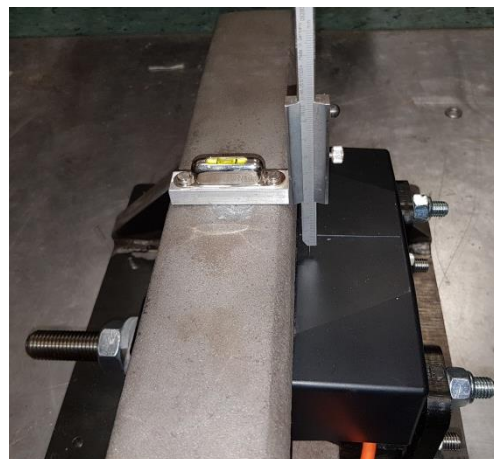
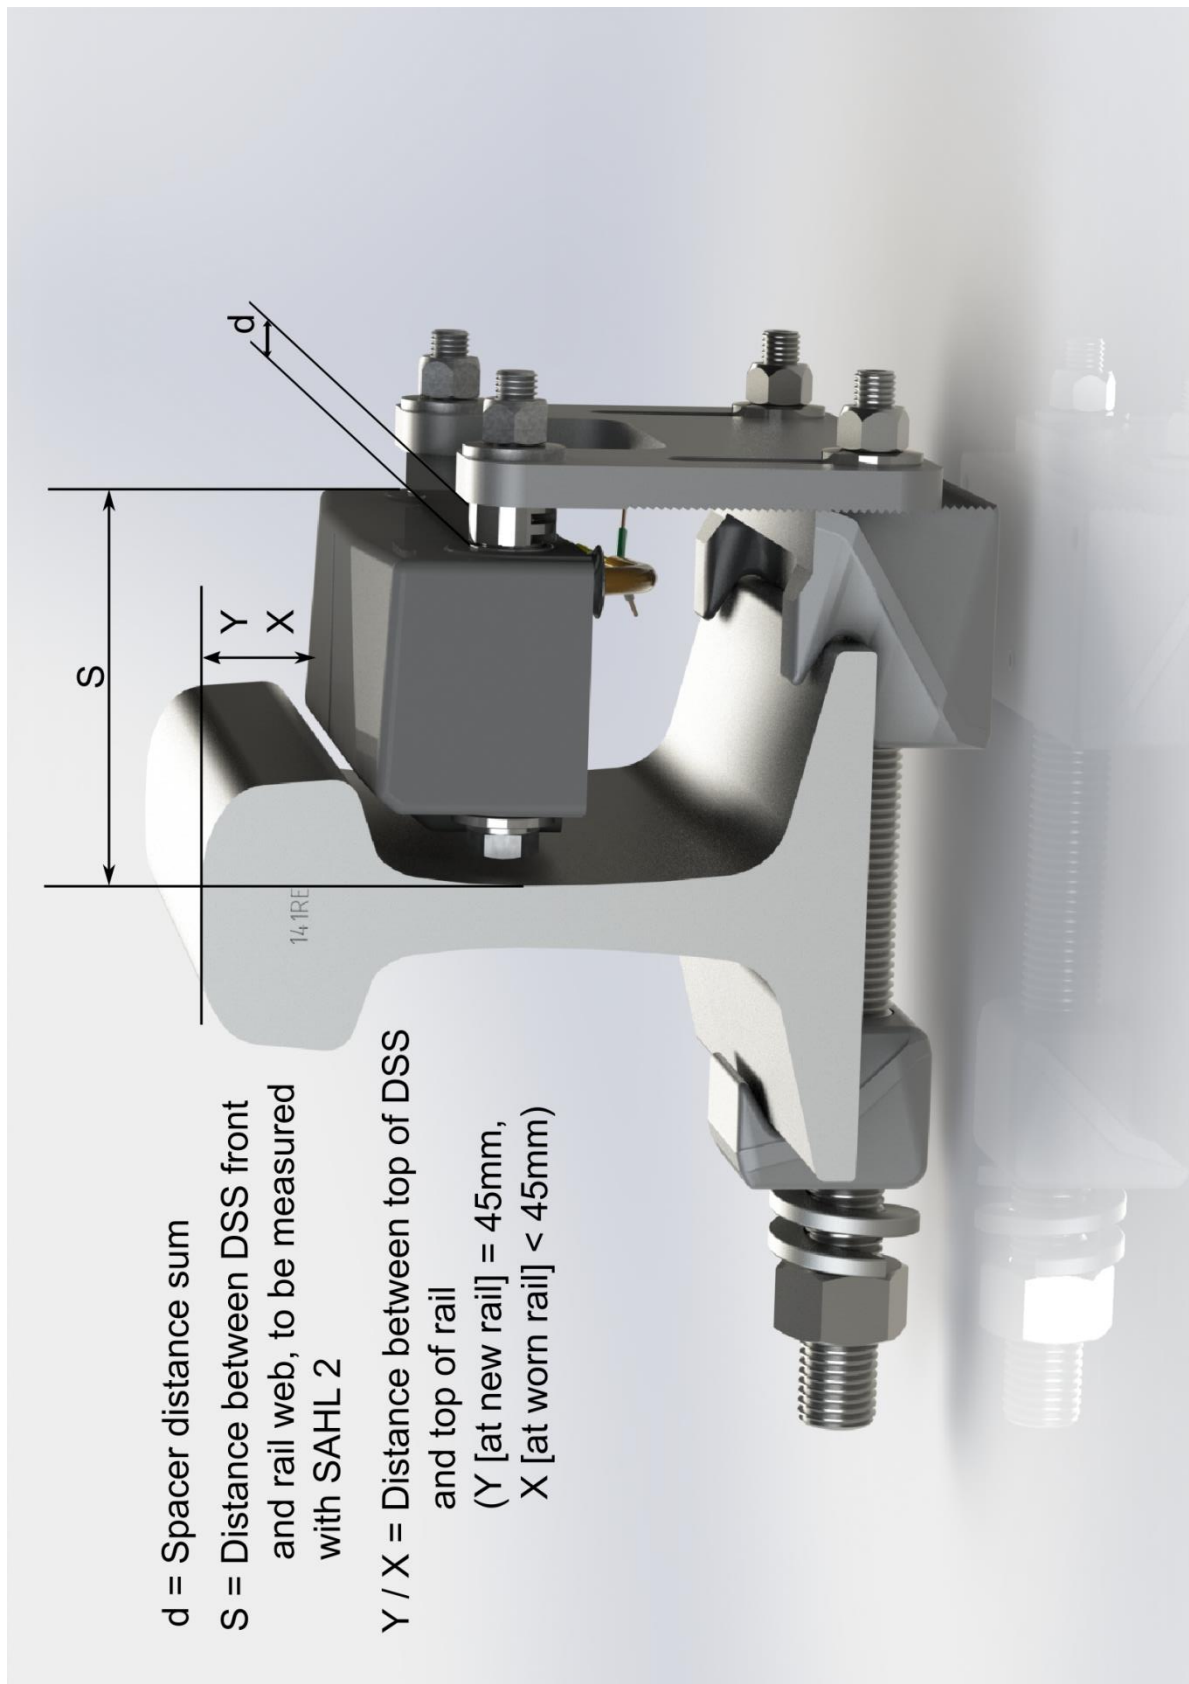

Figure 10: Measure Y (X) with gauge SAHL 210
Figure 11: Installation Drawing11
- The distance Y [X when rail is worn] (cf. figure 10 and figure 11) from the upper edge of the DSS to the upper edge of a new rail is 45 mm (± 1 mm) for each DSS type and can be measured with a SAHL 2 (taking care that the gauge is positioned rectangular from the highest point on the upper side of the rail) Figure 10: Measure Y (X) with gauge SAHL 2 Figure 11: Installation Drawing 11